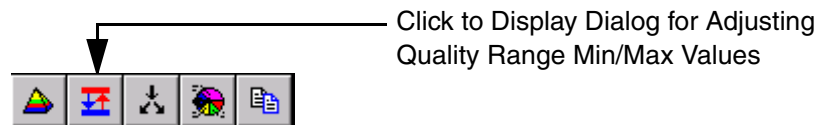

Figure 72. Displaying the Set Min/Max Dialog
1. Click the Set Min/Max button in the legend tool bar, Figure 72.